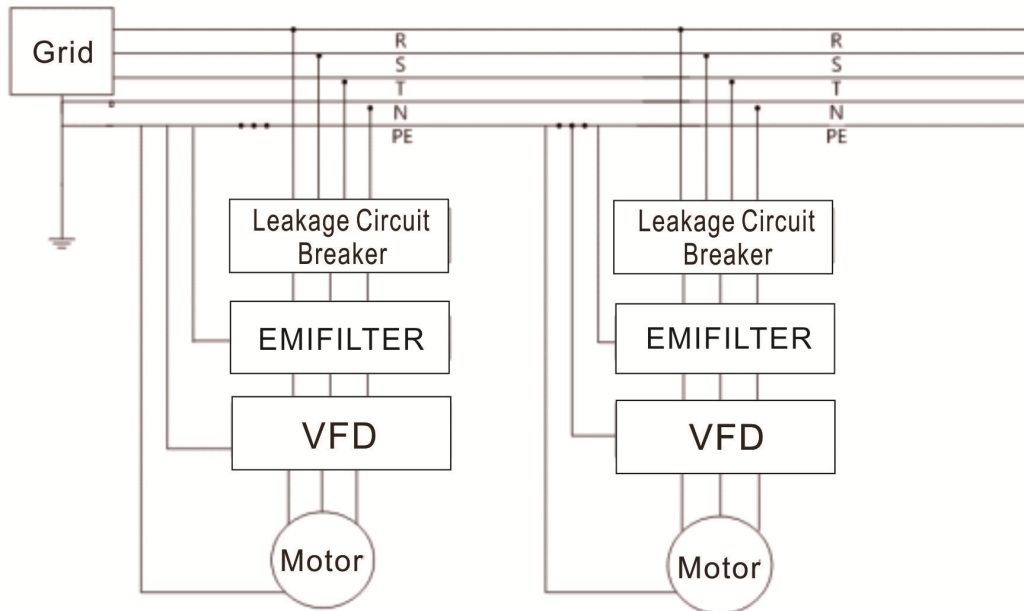

Figure 1.5.2-1: Wiring Diagram of Leakage Circuit Breaker
- 1.5.2.1 The leakage circuit breaker should be installed between each frequency converter and the main power supply. The wiring diagram is shown in Figure 1.5.2-1.